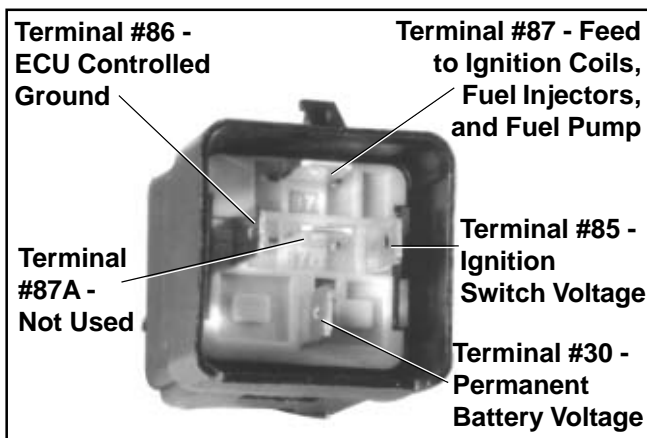

Figure 5B-15. Relay Terminal Details.
5. Connect an ohmmeter (Rx1 scale) between the #85 and #86 terminals in the relay. There should be continuity. See Figure 5B-15.